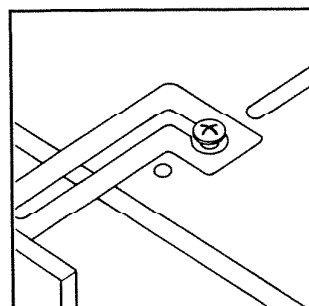

FIGURE 11
3. Attach master panel to rough-in frame by placing keyhole slots in both mounting hinges over screw heads in rough-in frame. See Figure 11.